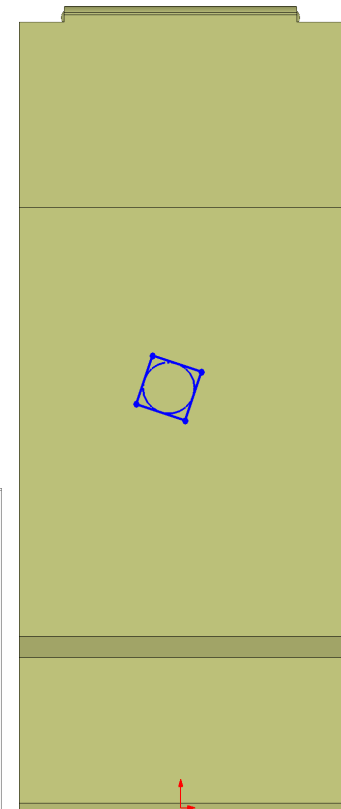

Fig. 28
Step 5. Sketch polygon, **Fig. 28**.